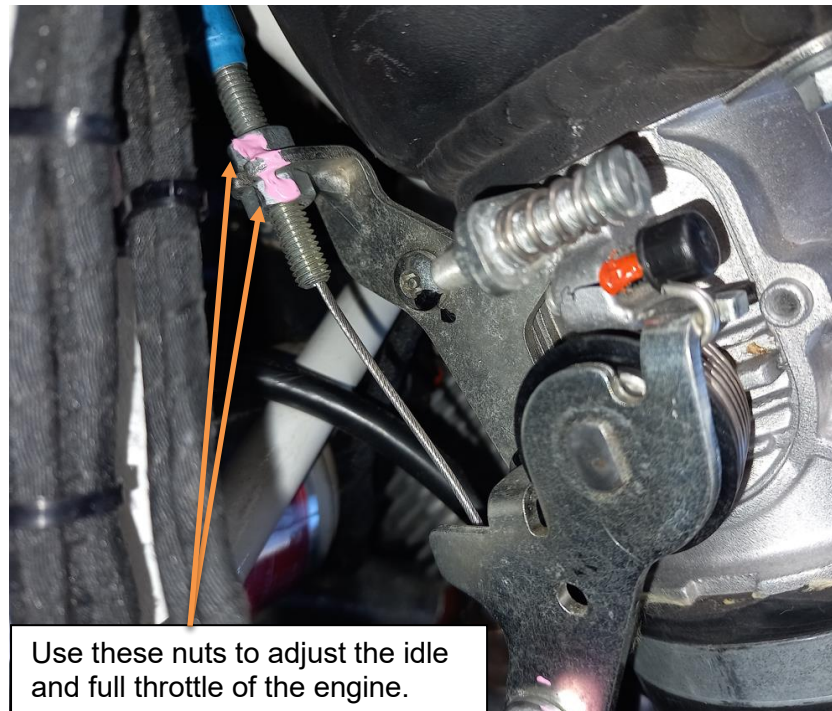

Figure 33
- Step 4: Once the stopper pins are set, check that the throttle lever goes to fully open and idle respectively. The throttle cable travel can be adjusted slightly by adjusting the locknuts on the sheath holding the sheath to the Rotax throttle body. Refer to Figure 33.